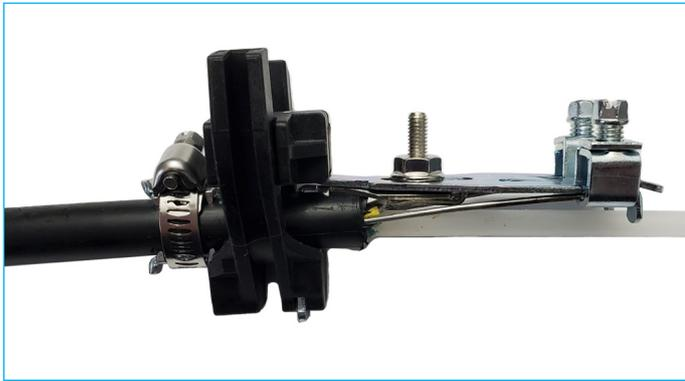
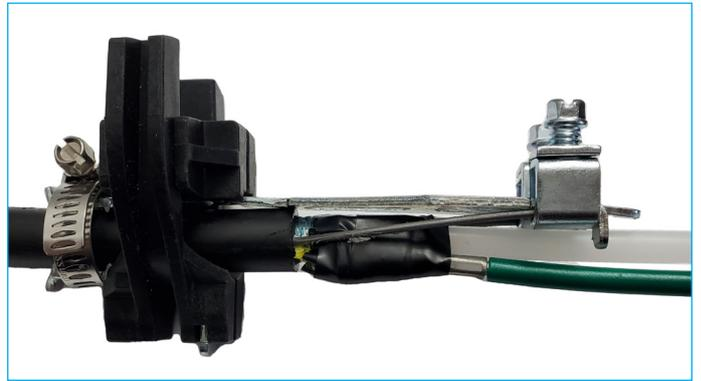

Figure 13
Figure 14
8.8 Install hose clamp and tighten such that the teeth are fully seated into the cable assembly. Don't overtighten the clamp to the point that it deforms. Use 1/4" nut driver to tighten the hose clamp. Figure 13 illustrates cable attachment with bond shield connector. Figure 14 illustrates cable attachment with alligator clip bond.